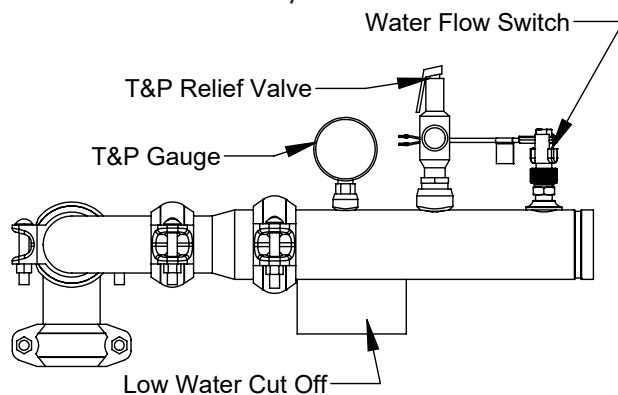

Figure 12: Hot Water Outlet Manifold
2. The hot water supply line shall be connected to the outlet manifold of the appliance shown in Figure 12.
1. A temperature and pressure relief valve is included with every BFIT water heater. If the Relief valve is shipped loose, install it to the outlet manifold as shown in Figure 12.